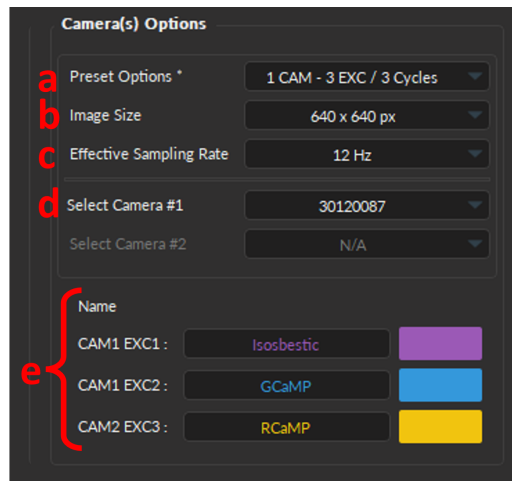

Figure 9.15: Recording Channel - Camera Options
1. The **Camera Options** (Fig. 9.15) defines which preset option to use and allows users to select the proper camera and camera parameters for the recording, such as:
- a) The **Preset Options** drop-down (Fig. 9.15, a) contains six pre-configured options which are listed in Table 9.2, along with their use cases.
- b) The **Image Size** drop-down (Fig. 9.15, b) sets the resolution (pixel x pixel) of the Image stack from which ROI(s) will be computed. There are six options, among which the lowest available *Image* size is 256 x 256, and the maximum is 1024 x 1024. Note that if the save **Image Stacks** option is enabled, using a large resolution will result in larger *.doric* data files.
- c) The **Effective Sampling Rate** drop-down (Fig. 9.15, c) sets the true frequency (in Hz) of each **EXC** since, when more than one excitation is used, the excitations are interleaved with one another, reducing the sampling rate by half (for 2 EXC) or by a third (for 3 EXC). Thus, the following **Effective Sampling Rate** are available according to the number of excitations:
- d) The **Select Camera #** drop-down (Fig. 9.15, d) sets which CMOS camera sensor will be labeled as **CAM1** and **CAM2** (if in use), by selecting the *Camera ID*.
- e) The **Name CAM# EXC#** (Fig. 9.15, e) allows users to label the specific **Camera excitations** with more intuitive name. This setting also lets users select the trace color for the data collected during the corresponding excitations.